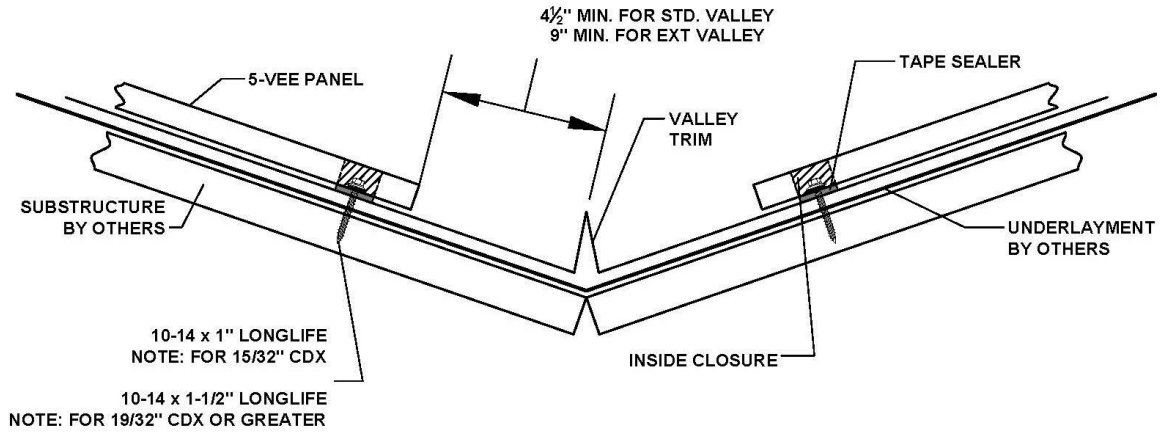

Figure 3: Valley Detail
**Valley Trim:** The valley trim must be installed as shown in Figure 3.